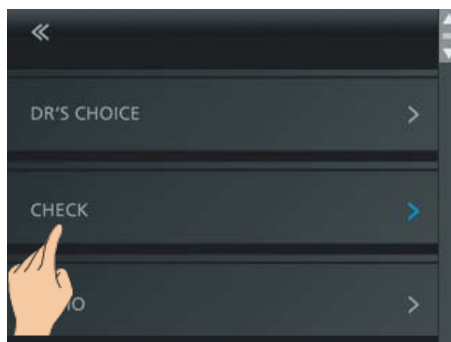

Fig. 28 Select CHECK
- Enter the Settings Menu and select the CHECK feature (Fig. 28).